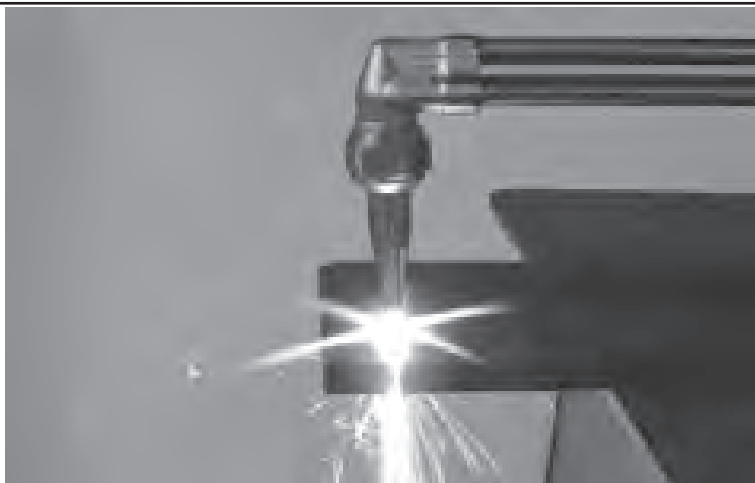

Figure 19: Cutting
20. When the cut starts, move the torch in the direction you wish to cut (see Figure 19, page 51).
1. Preheat a small spot on the base metal to a bright cherry red kindling temperature (see Figure 19).